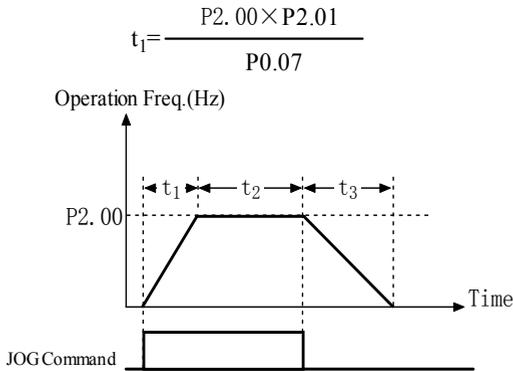

Fig. 5-2-1 JOG Running
- ◆ As shown in Fig. 5-2-1, t_1 is Acc time of Jog and t_3 is Dec time of Jog t_2 is the Jog time; P2.00 is the Jog frequency.